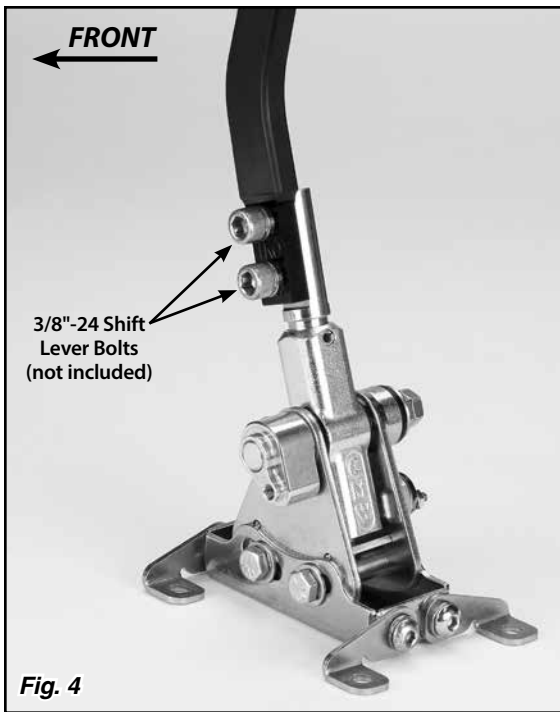

Fig. 4
**Step 4: Tremec Style Lever** - If your Shifter did not come with the Shifter Lever installed, install the Shifter Lever using the 3/8"-24 bolts that came with the Shifter Lever. **Fig. 4**